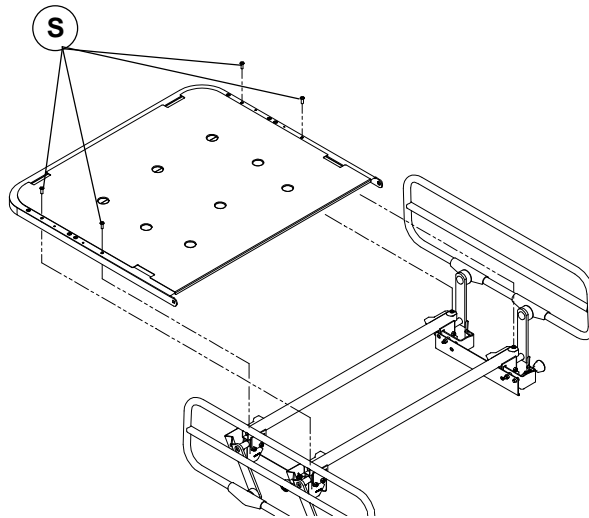

Figure 4.1A
3. If the bed is equipped with half-length siderails, lower both siderails, remove the four screws (**S**, fig. 4.1A below) holding the two siderail supports to the head section and remove siderails.